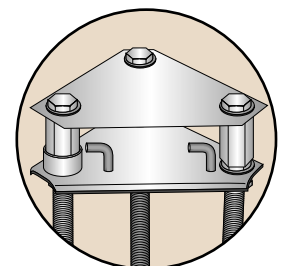

Fig 4,
4. To ensure that the foundation bolts remain parallel to one another during the concreting, lock the top template plate into position using the 3 set screws and anti vibration washers as shown. (See Fig 4)